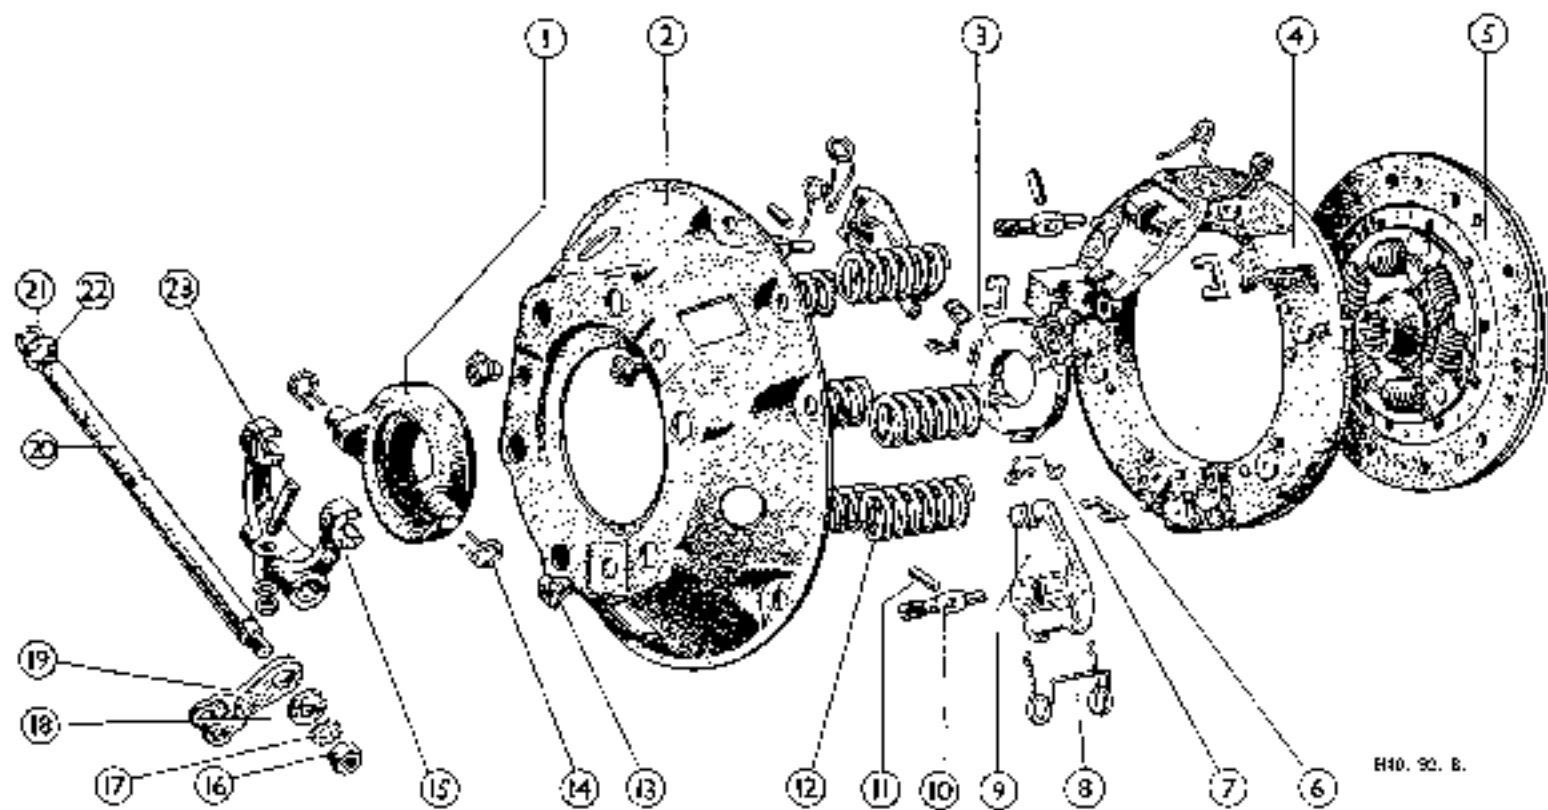

Fig. 3. An exploded view of the clutch.
This is of the flexible centre type (5) in which the splined hub is indirectly attached to a disc (see Fig. 3), which transmits the power and over-run through a number of coil springs held in position by retaining wires. Two friction linings are riveted to the disc.